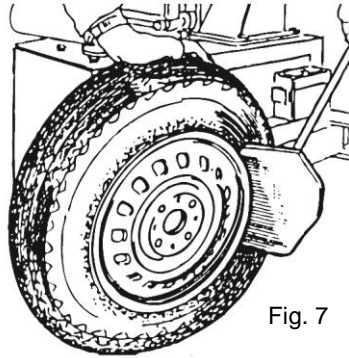

Fig. 7
- Open the arm with the lever by hand and roll the wheel in up to the desired point. Press the rim against the rubber support on the machine, and place the shoe (Fig. 7) 10mm away from the rim.